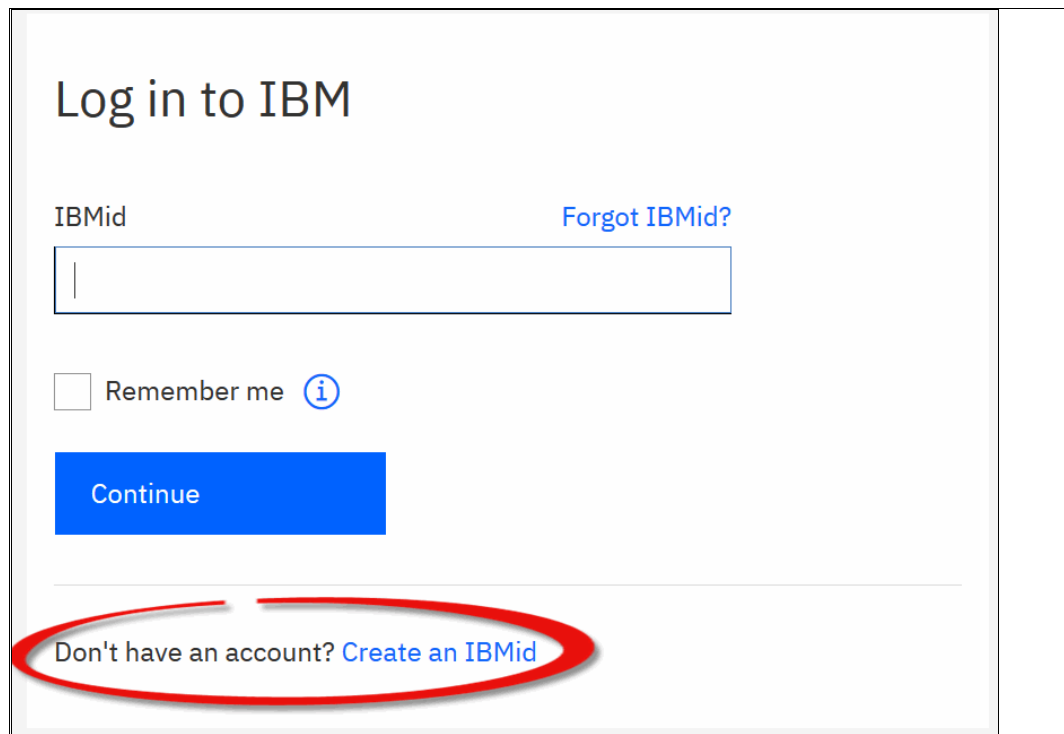

Figure 9-24 Registration login window
- Figure 9-24 shows the log-in window in the registration process. If you have your credentials, enter your IBMid and proceed to the next window by clicking **Continue**. If you do not have an IBMid, click **Create an IBMid**.